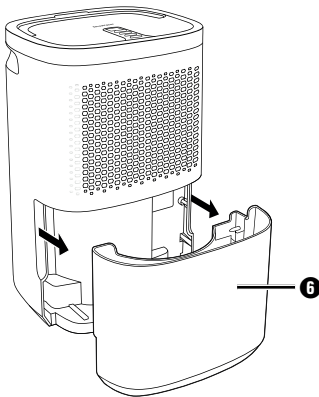

Fig. 1
- ◆ Pull the water tank **6** carefully out of the appliance using the grips on the side (see figure 1).